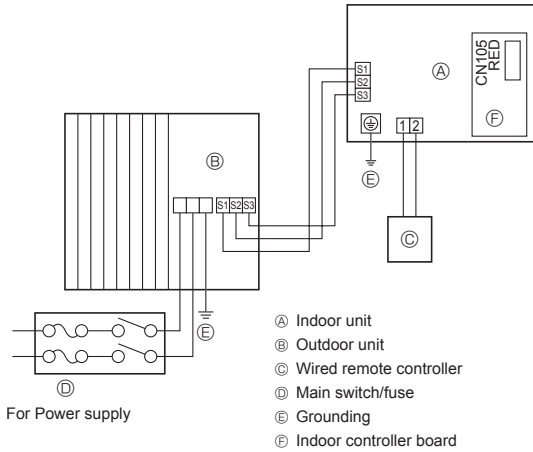

Fig. 6-2
6.1.1. Indoor unit power supplied from outdoor unit (Fig. 6-2)